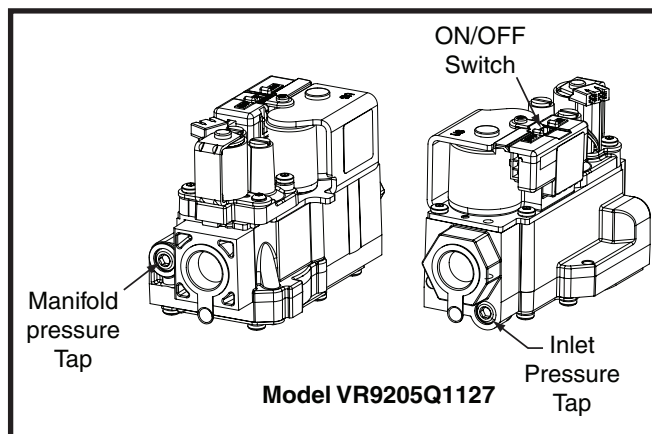

Figure 3. Inlet & Manifold Pressure Tap Locations
3. Move the gas valve ON/OFF switch (see Figure 3) to the OFF position.
4. Place the gas valve ON/OFF switch/knob to the ON position. See Figure 3.
- 3. Using a 3/16" Allen wrench, remove the manifold pressure tap plug located on the outlet side of the gas valve. See Figure 3 (page 3).